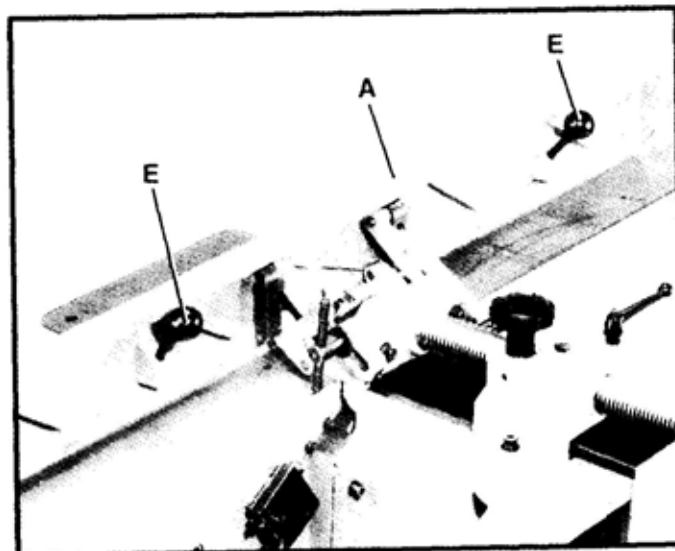

Fig. 19
3. Thread two fence adjustment handles (E) Fig. 19, into the rear of fence (A) as shown.